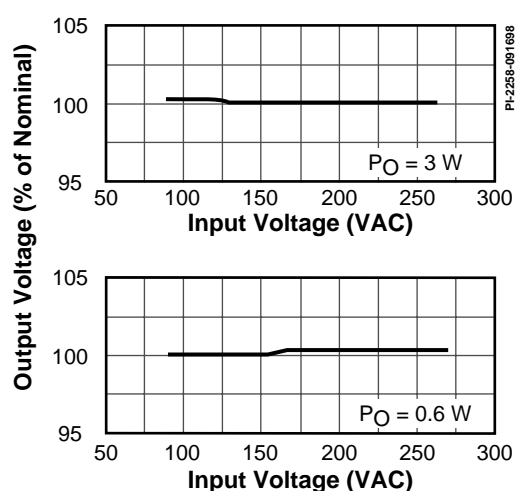

Figure 5. Line Regulation.
**Line Regulation (Figure 5)** - The change in the DC output voltage for a given change in the AC input voltage is called line regulation. The maximum change in output voltage versus line for the RD8 is within  $\pm 0.5\%$ .